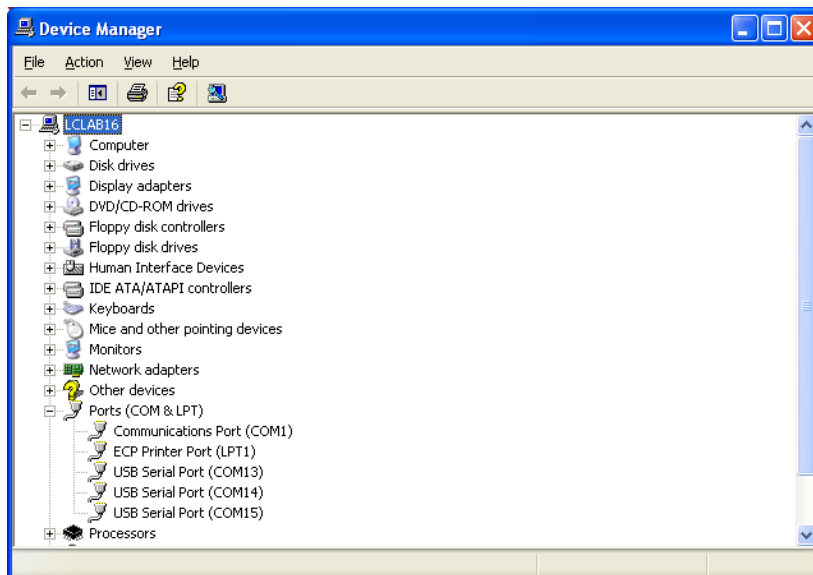

Figure 2-9 Device Manager Dialog
3. Click **Device Manager** to display the Device Manager dialog (Figure 2-9).